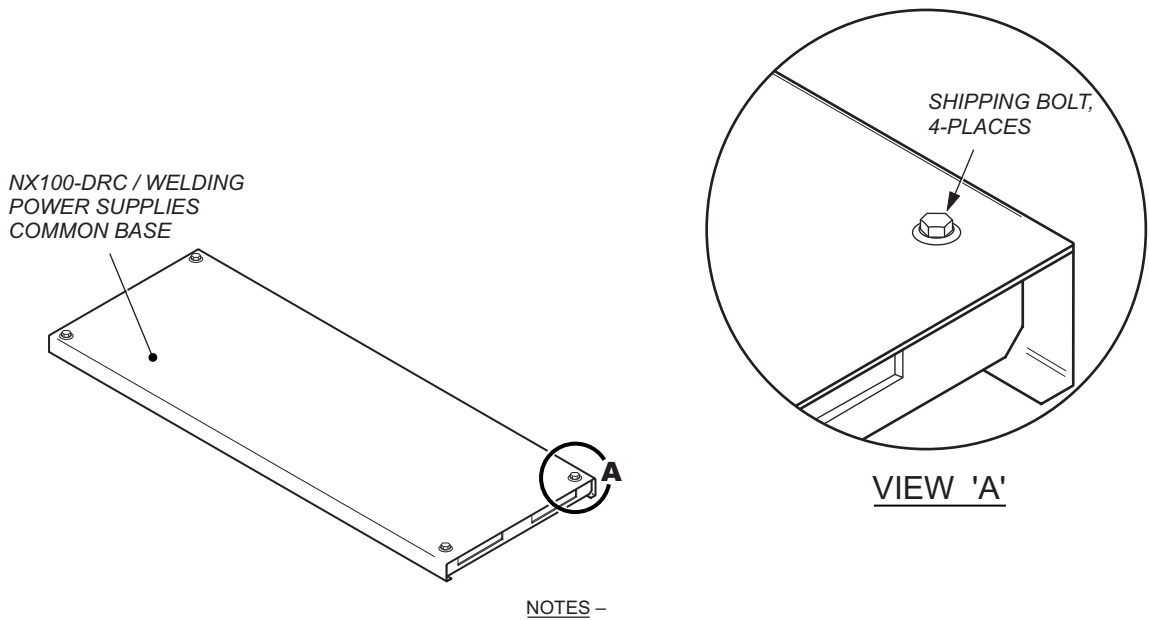

Figure 10 NX100-DRC / Weld Power Sources Common Base
The NX100-DRC controller, two welding power sources, two electrical service disconnect boxes (one for each welding power source), and a common equipment table for the welding power sources are mounted on a common base (see Figure 2 and Figure 10). As delivered to the customer, the common base is attached to wooden shipping blocks by four shipping bolts.
1. Separate the wooden shipping blocks from the common base by removing all four shipping bolts (see Figure 10).